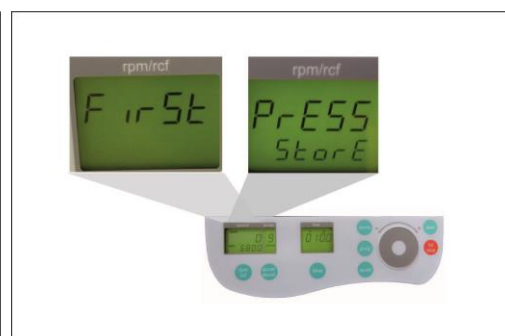

**Figure 17**
Put the rotor into the centrifuge. By pressing the key, "prog" (11), in the display "time" (A-3) appears the word "program", (see Figure 17). With the control field (1), choose the desired program number.